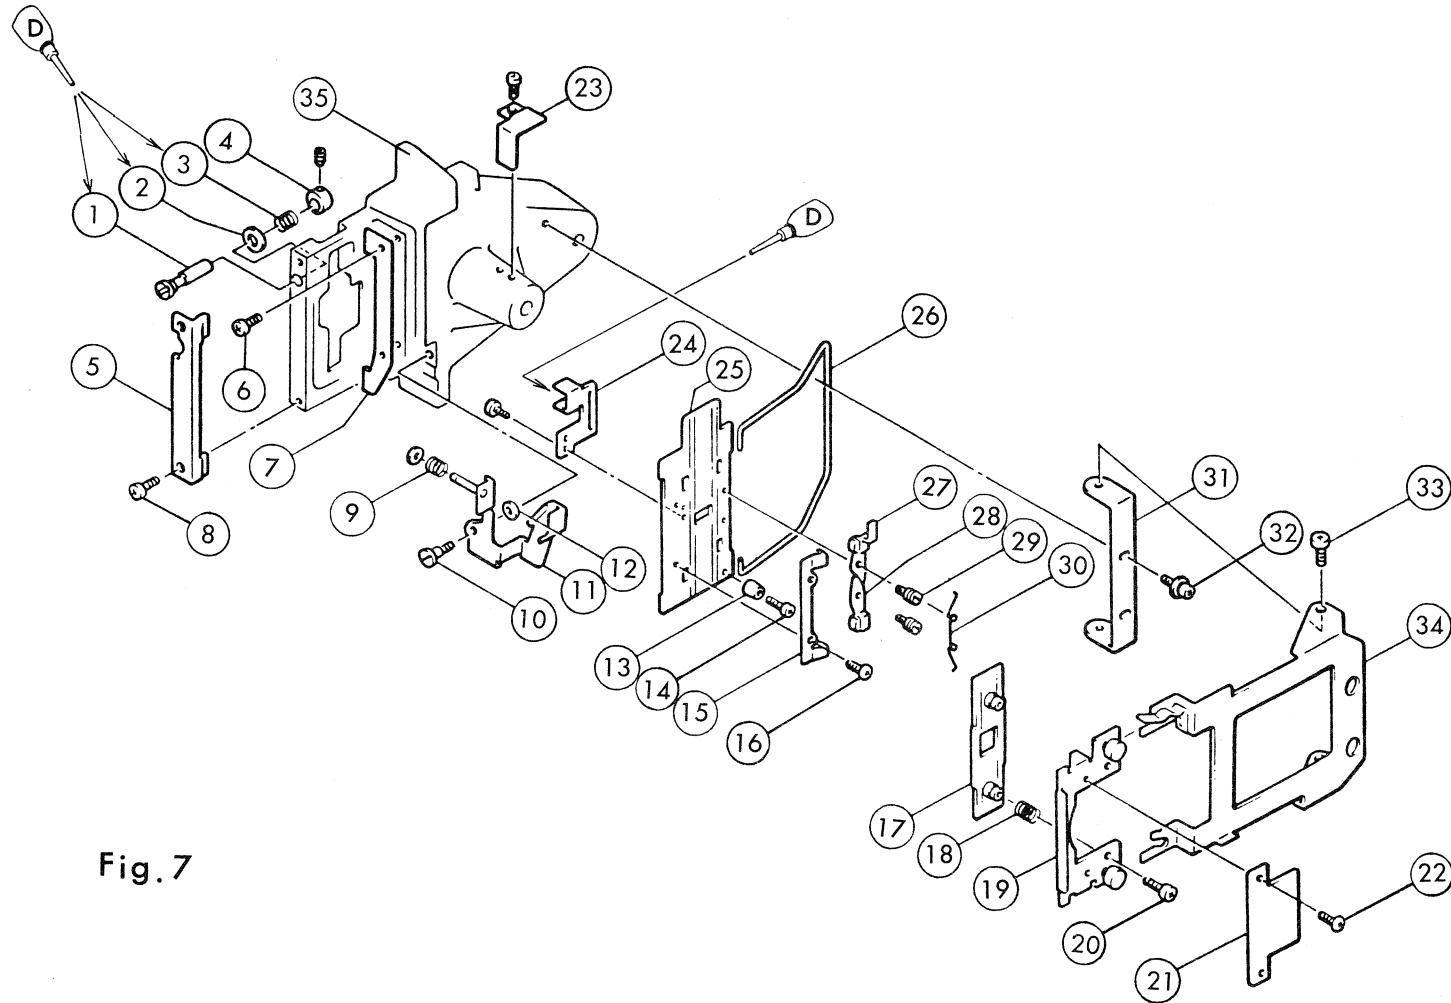

Fig. 7
1. Pull out ⑯ assy parts from ④.
2. Unscrew ② and ⑩ to disassemble ⑯ ~ ㉕ as shown in Fig. 7.
3. Unscrew ③ to remove ⑪ and ⑫ from ㉕.
4. Unscrew ⑩ and ㉙ to remove ⑦ and ⑧.
5. Unscrew ⑭ and ⑯ to remove ⑬ and ⑮.
7. Carry out the above disassembly referring to Fig. 7.
Aperture Plate TRV (See Fig. 7)